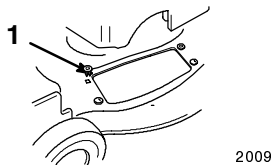

Figure 36
- Install the four grommets supplied with the grass catcher into the four square holes in the lawn mower (Fig. 36).
- Align the holes in the tunnel with the grommets in the lawn mower (Fig. 36).